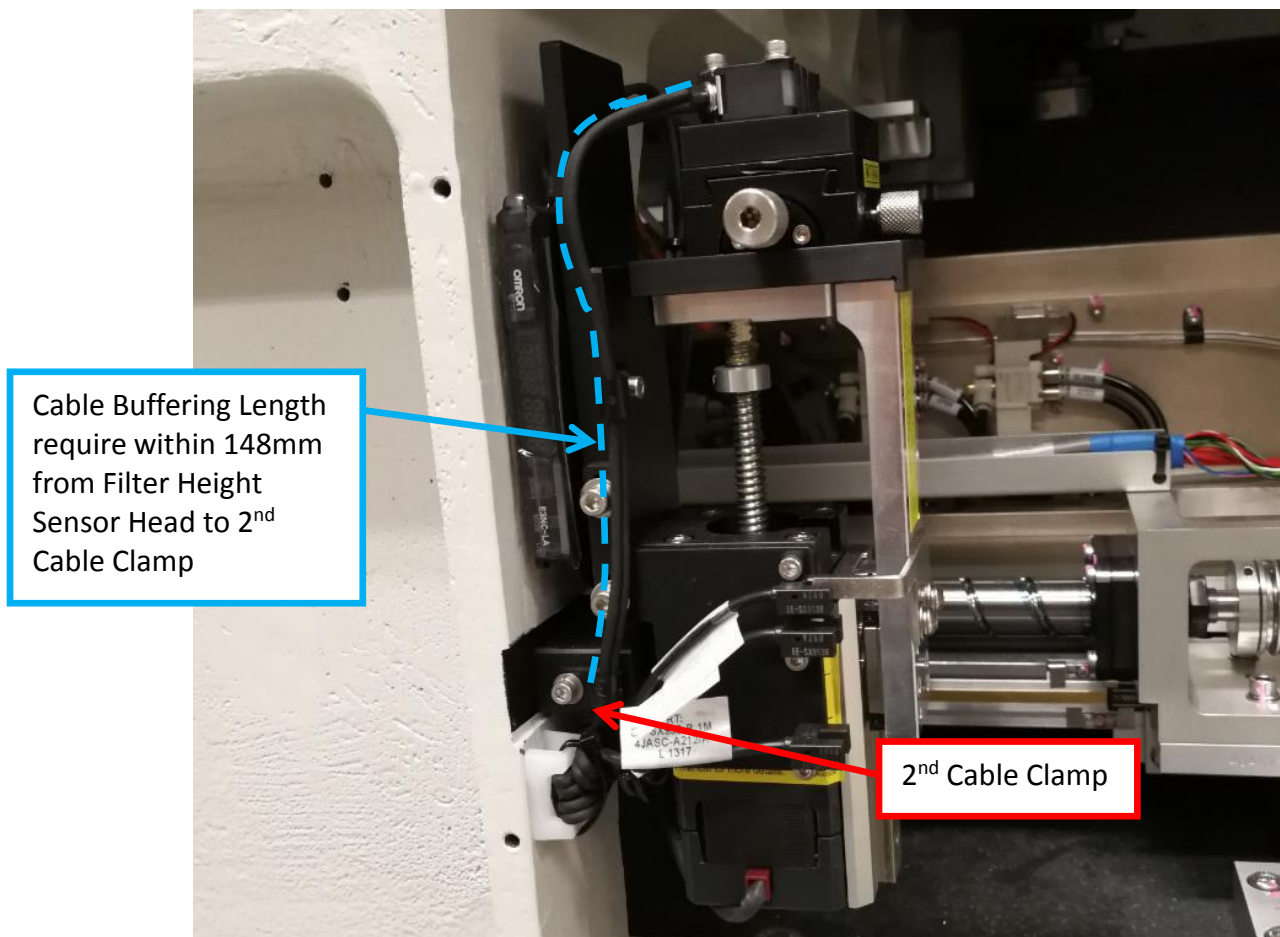

Figure 12
14. Route Filter Height Sensor Head Cable while cable buffering length will require within 148mm . May refer to below Figure 12